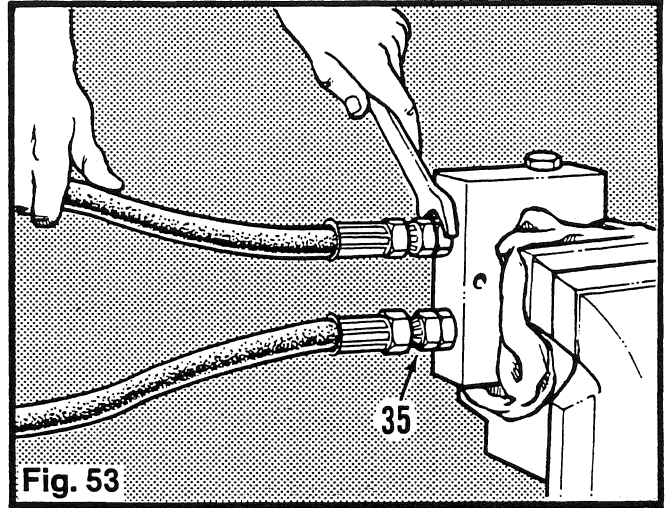

Fig. 53
1. Place the valve into a vise with soft jaws. Remove the O ring fittings (35) and hoses. (Fig. 53)